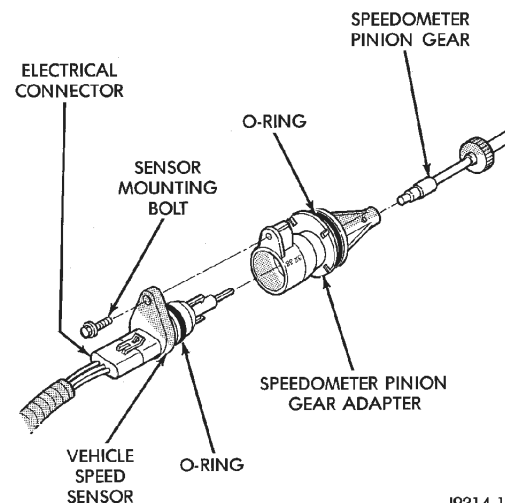

Fig. 52 Sensor Removal/Installation
- (1) Raise and support vehicle.
- (2) Disconnect electrical connector from sensor.
- (3) Remove sensor mounting bolt (Fig. 52).
(4) Remove sensor (pull straight out) from speedometer pinion gear adapter (Fig. 52). Do not remove gear adapter from transmission.